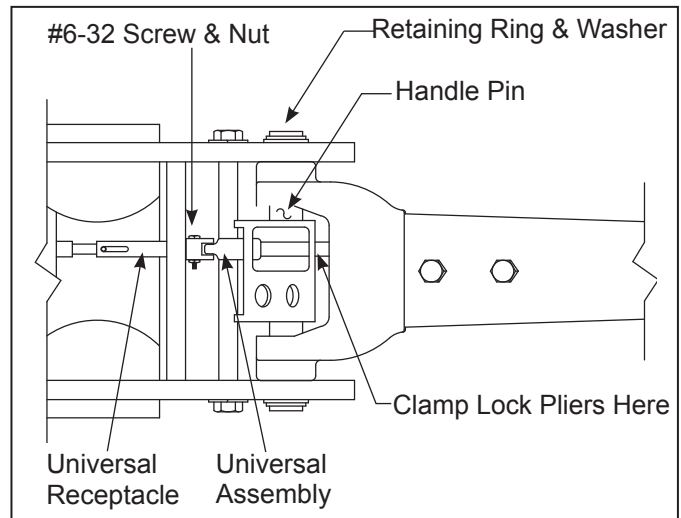

Figure 1- Assembly Illustration for HW93657 & HW93667
1. *Models HW93657 and HW93667:* (ref. figure 1) Remove the retaining rings and the handle pin from the jack base that connects through the handle fork.